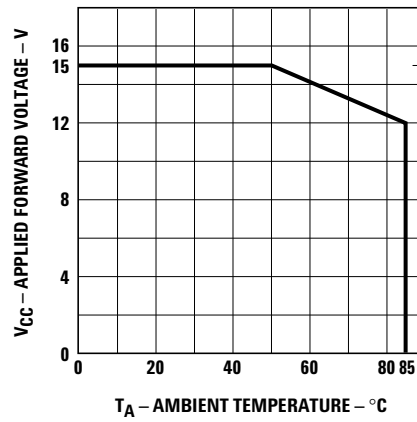

Figure 4. Maximum allowed applied forward voltage vs. ambient temperature $R_{\theta JA} = 175^{\circ}\text{C}/\text{W}$. 12 volt devices.
- Derate from T_A = 50°C at 0.086 V/°C, see Figure 4.